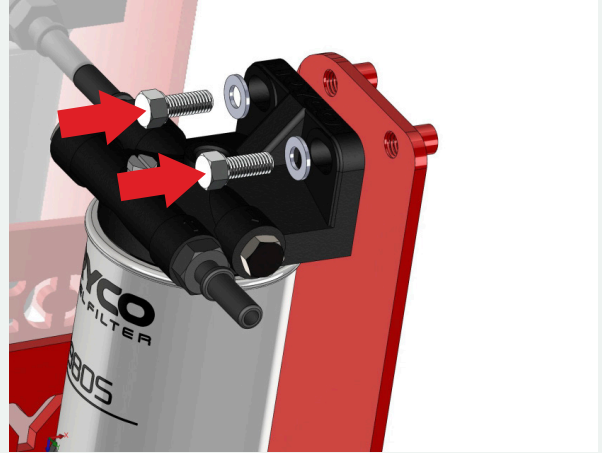

FIGURE 3A
- 3 Using the M10 bolts and washers supplied in the Ryco Z980SK16 fuel water separator kit, attach the Z980SK16 to the FB9805FC bracket as shown in FIG. 3A.